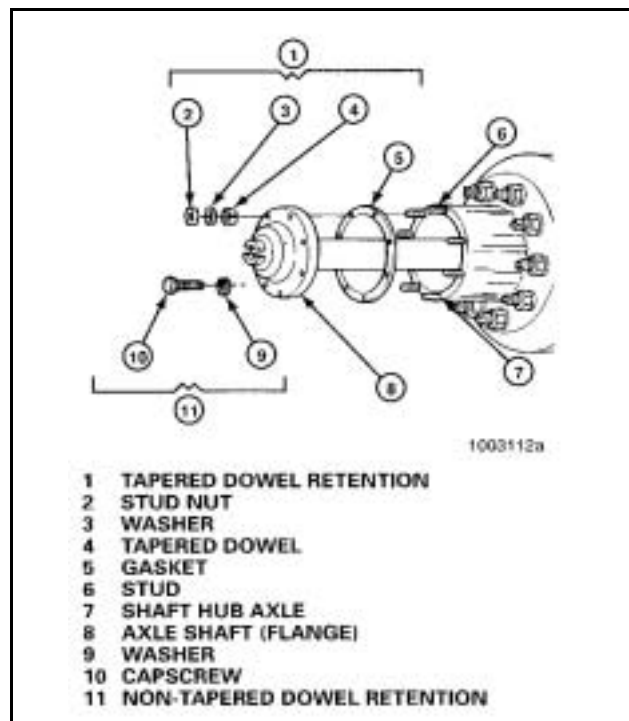

Figure 129
- Install the gaskets and axle shafts into the axle housing and carrier. The gasket and flange of the axle shafts **must** fit flat against the wheel hub. **Figure 129**.
- Install the gasket and the axle shaft into the housing. The gasket and the flange of the axle shaft **MUST** fit flat against the wheel hub. Refer to **Figure 129**.
3. Install the gasket and the axle shaft into the housing. The gasket and the flange of the axle shaft **MUST** fit flat against the wheel hub. Refer to **Figure 129**.